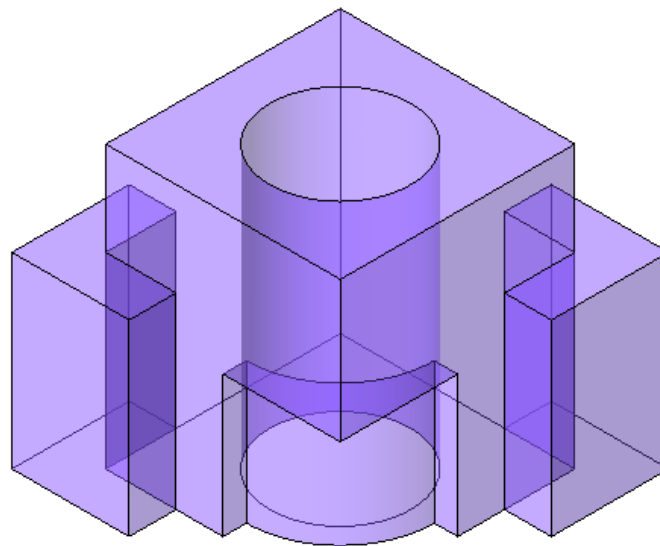

Figure 9-46 3-D shaded view of the cut massing geometry
20. Choose the **Default 3D View** button from the **Views** toolbar and then choose **View > Orient > Southwest** from the menu bar to view the resulting massing, as shown in Figure 9-46.